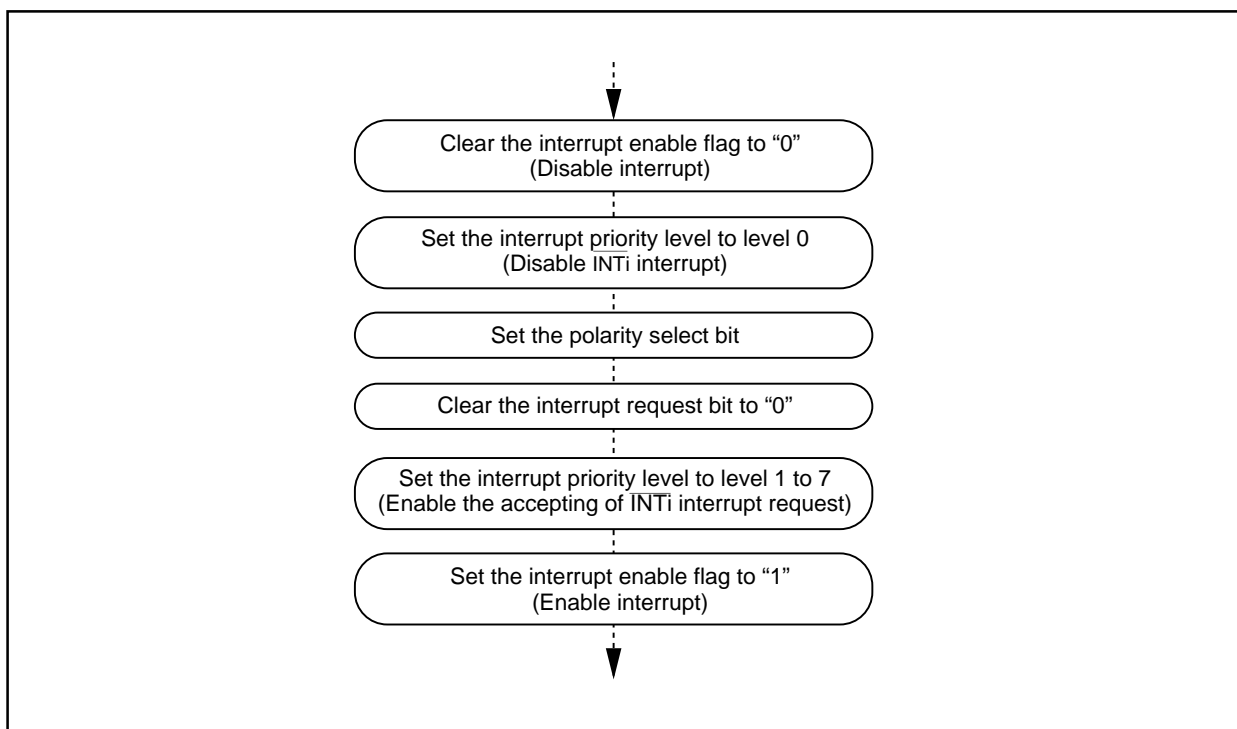

Figure 1.12.16. Switching condition of  $\overline{\text{INT}}$  interrupt request
- When changing a polarity of pins  $\overline{\text{INT}}0$  to  $\overline{\text{INT}}3$ , the interrupt request bit may become "1". Clear the interrupt request bit after changing the polarity. Figure 1.12.16 shows the switching condition of  $\overline{\text{INT}}$  interrupt request.